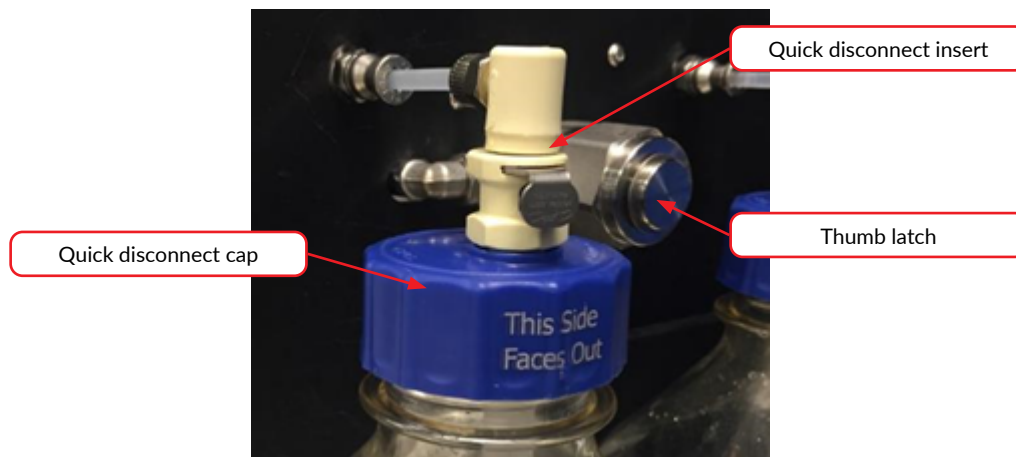

Figure D.1 Quick Disconnect Components
2. Disconnect the bottle by pressing the thumb latch on the Quick Disconnect Cap. See **Figure D.1**.